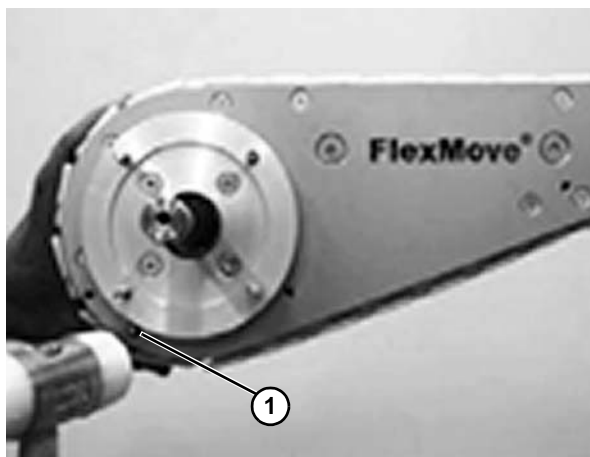

Figure 58
4. Tension the chain and remove links if necessary, so that the chain will exhibit some slack at the drive unit. Put in the stainless steel pin (**Figure 58, item 1**) at the hole provided at drive unit and join the chain.